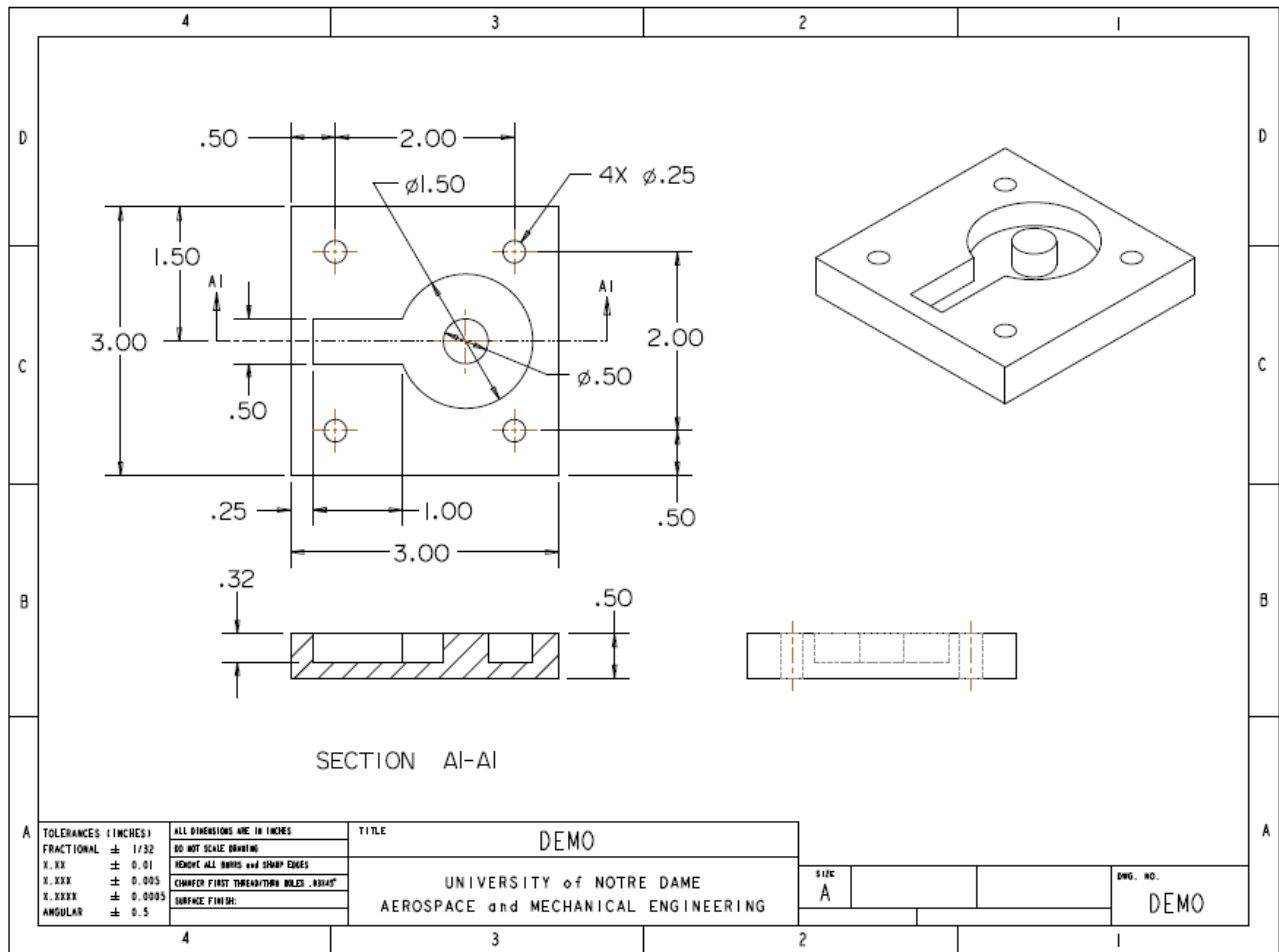

Figure 1: Part to Machine
In this tutorial we will create and machine the part shown in Figure 1. The first step of this tutorial will be to create the part (demo.prt).
Step 2: Model the part as shown in Figure 1.